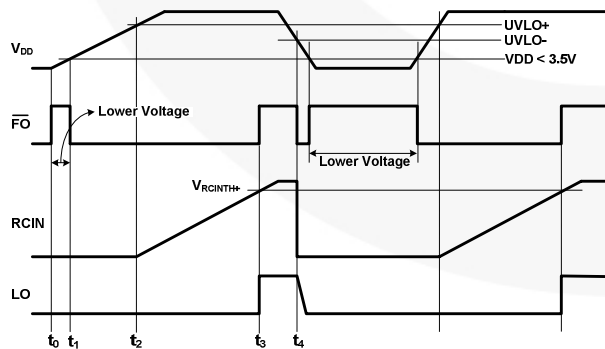

Figure 38. Waveforms for Under-Voltage Lockout
2.1 Fault Out (FO) and Under-Voltage Lockout
The high- and low-side drivers include under-voltage lockout (UVLO) protection circuitry that monitors the supply voltage for V_{DD} and V_{BS} independently. It can be designed to prevent malfunction when V_{DD} and V_{BS} are lower than the specified threshold voltage. Also, the UVLO hysteresis prevents chattering during power-supply transitions. Moreover, the fault signal (FO) goes to LOW state to operate reliably during power-on events, when the power supply (V_{DD}) is below the under-voltage lockout high threshold voltage for the circuit (during $t_1 \sim t_2$). The UVLO circuit is not otherwise activated; shown Figure 38.